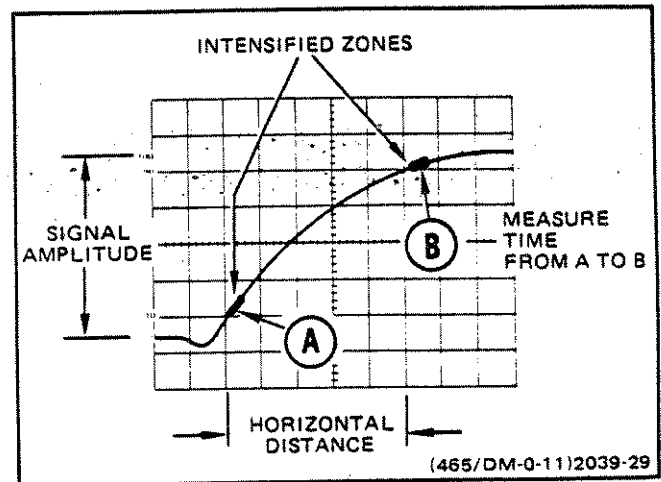

Figure 26. Rise time.
3. Vertically position the trace so that the zero reference of the waveform touches the 0% graticule line and the top of the waveform touches the 100% graticule line (see Figure 26).
4. Set the A TIME/DIV switch for a single-event display, with the rise time spread horizontally as much as possible. Horizontally position the display so the 10% point of the waveform intersects the third vertical graticule line (see Figure 26).
6. Use the DELAY TIME POSITION control to move the start of intensified zone (left-hand edge) until it just touches the intersection of the signal and the 10% graticule line (see Figure 26, Point A).
8. Use the DELAY TIME POSITION control to move the start of the intensified zone until it just touches the intersection of the signal and the 90% graticule line (see Figure 26, Point B).
EXAMPLE: The A TIME/DIV switch is set to $1 \mu\text{s}$. The DELAY TIME POSITION dial setting at Point A is 2.50 and the DELAY TIME POSITION dial setting at Point B is 7.50 (see Figure 26).